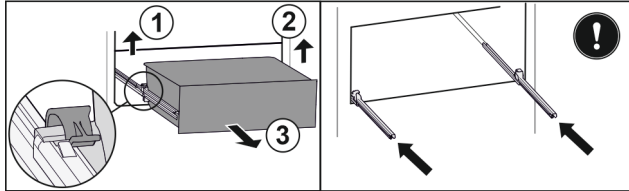

Fig. 135
- Lift left clamp and simultaneously pull drawer forwards on the left. Fig. 135 (1)
- Lift right clamp and simultaneously pull drawer forwards on the right. Fig. 135 (2)
- Remove drawer to the front. Fig. 135 (3)